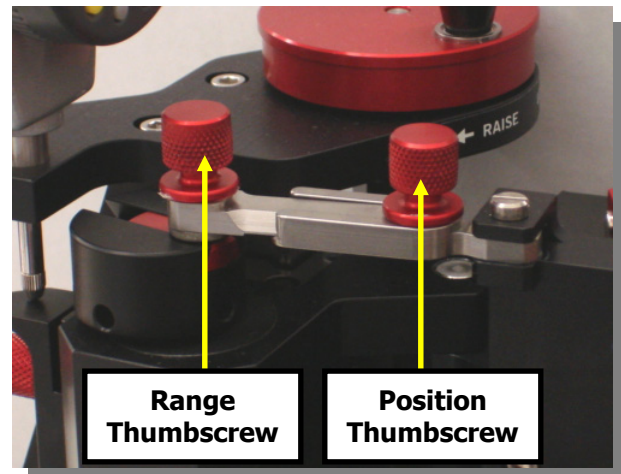

Figure 10
1. **Range:** To set the sweep range, loosen the range thumbscrew on the oscillator pulley (Figure 10). Slide the dovetail bar so the drive pin moves closer to or farther from the center of the hub. Moving the pin closer to the center will provide a smaller sweep (range), and moving it farther from the center will create a larger sweep. The oscillation speed is variable, with six (6) settings. The speed number is arbitrary, increasing from 1 to 6.
It can be adjusted after loosening the position thumbscrew (Figure 10). The longer the linkage assembly, the further to the outside of the platen oscillation will occur. A shorter linkage positions the sample toward the center of the platen. After adjustments are made, activate the oscillator and make sure the position selection does not cause the sample to extend over the edge or center of the platen.